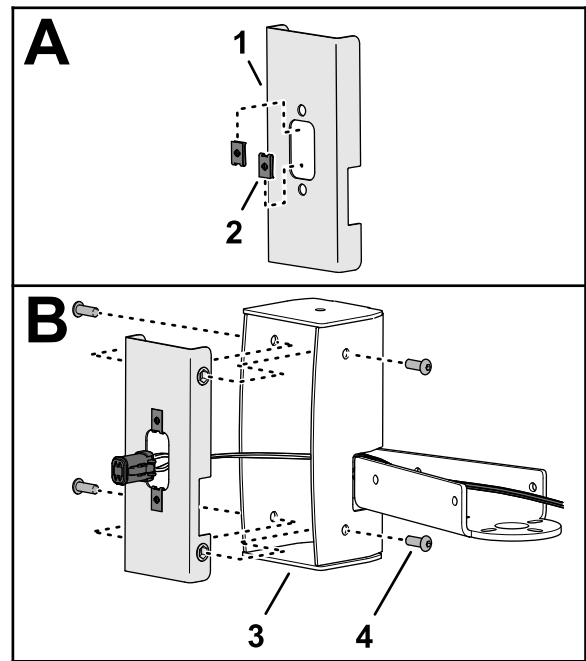

Figure 47
4. Align the 4-socket connector of the harness through the inner mount (Figure 47).
5. Assemble the inner mount into the light housing, and secure the mount to the housing (Figure 47) with 4 socket-head screws (1/4 x 3/4 inch).
3. Assemble 2 clip nuts onto the inner mount as shown in Figure 47.